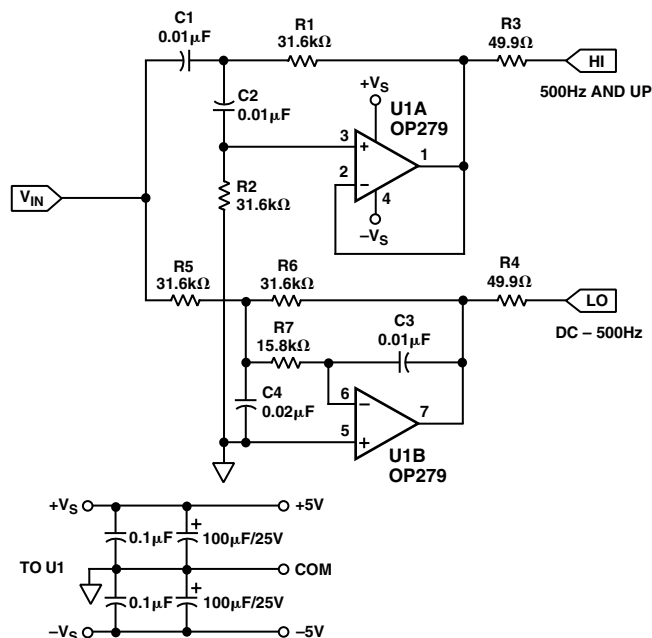

Figure 18. Two-Way Active Crossover Networks
Active filters are useful in loudspeaker crossover networks for reasons of small size, relative freedom from parasitic effects, and the ease of controlling low/high channel drive, plus the controlled driver damping provided by a dedicated amplifier. Both Sallen-Key (SK) VCVS and multiple-feedback (MFB) filter architectures are useful in implementing active crossover networks (see Reference 4, page 14), and the circuit shown in Figure 18 is a two-way active crossover that combines the advantages of both filter topologies. This active crossover exhibits less than 0.01% THD+N at output levels of 1 V rms using general purpose unity gain HP/LP stages. In this two-way example, the LO signal is a dc-500 Hz LP woofer output, and the HI signal is the HP (> 500 Hz) tweeter output. U1B forms an MFB LP section at 500 Hz, while U1A provides an SK HP section, covering frequencies  $\geq 500$  Hz.